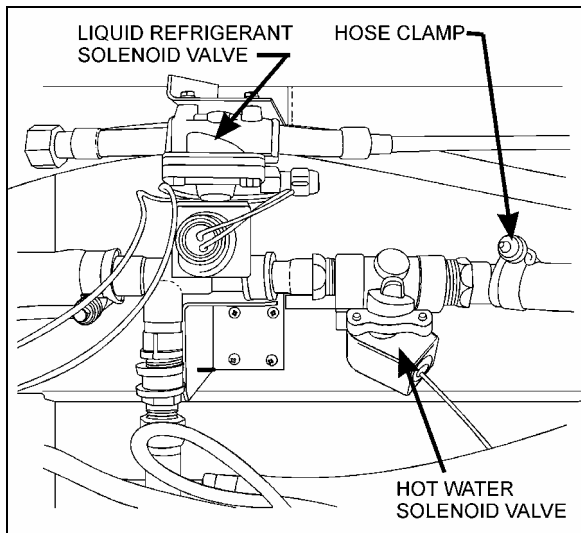

FIGURE 46: CEILING OF THE SPARE WHEEL COMPARTMENT 22181
2. Locate the normally open water solenoid valve on the ceiling of the spare wheel compartment (Fig. 46), disconnect its wiring connector, then connect a 24-volt external power source, using jumper cables, to close valve.
A two-way normally open, internal pilot-operated solenoid valve designed for smooth closing is used to control the coolant flow through the driver's heating unit. It is mounted on the coolant inlet line of the driver's heating unit, and is accessible through the spare wheel compartment (see fig. 46). The valve cannot be manually bypassed.